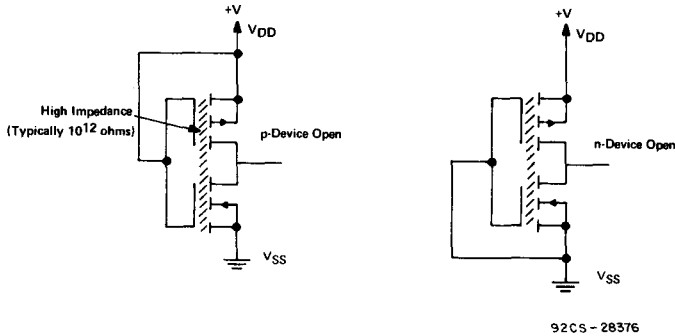

Fig. 6 — Schematic representations of p and n devices when turned off.
**Quiescent Leakage Current**—In bipolar logic devices, such as TTL devices, the current paths that exist from the power source to ground in the quiescent state cause milliamperes of current to flow even when the device is not functioning. Quiescent leakage may be defined for a COS/MOS device as that current that flows from  $V_{DD}$  to  $V_{SS}$  when, theoretically, all paths for current flow have been opened because the MOS device is off, Fig. 6.